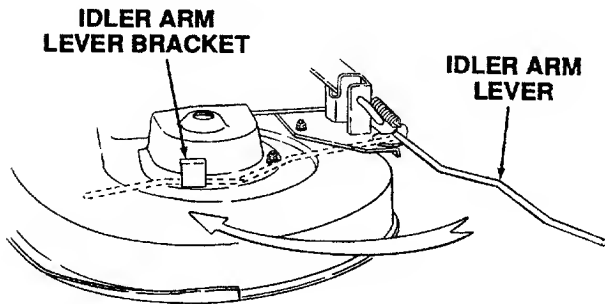

Figure 58
17. Engage the deck idler arm lever into its stop bracket to provide tension on the PTO belt (Refer to Figure 58).